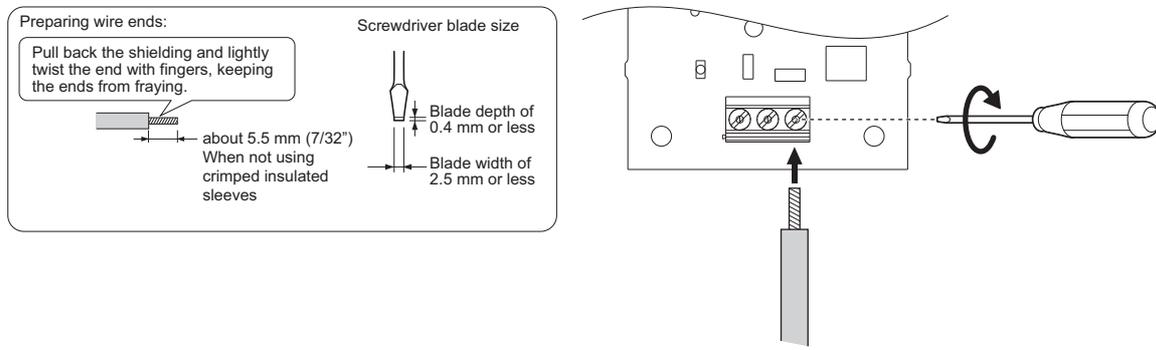

Figure 3.57 Wire the Option Plug
2. Use a flat-blade screwdriver to loosen the screws on the terminal block TB1, connect wiring to the 24, 0, and FE terminals as shown in Figure 3.57, then tighten the terminal screws to hold wiring in place. Refer to Table 3.30 to confirm that the proper tightening torque is applied to each terminal. Take particular precaution to ensure that each wire is properly connected and wire insulation is not accidentally pinched into electrical terminals.